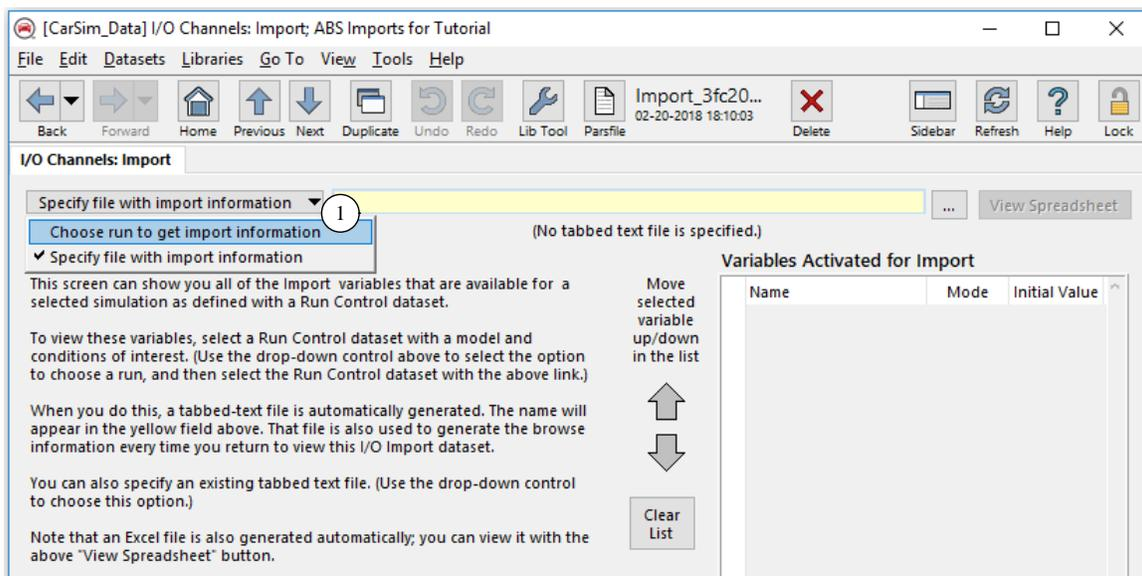
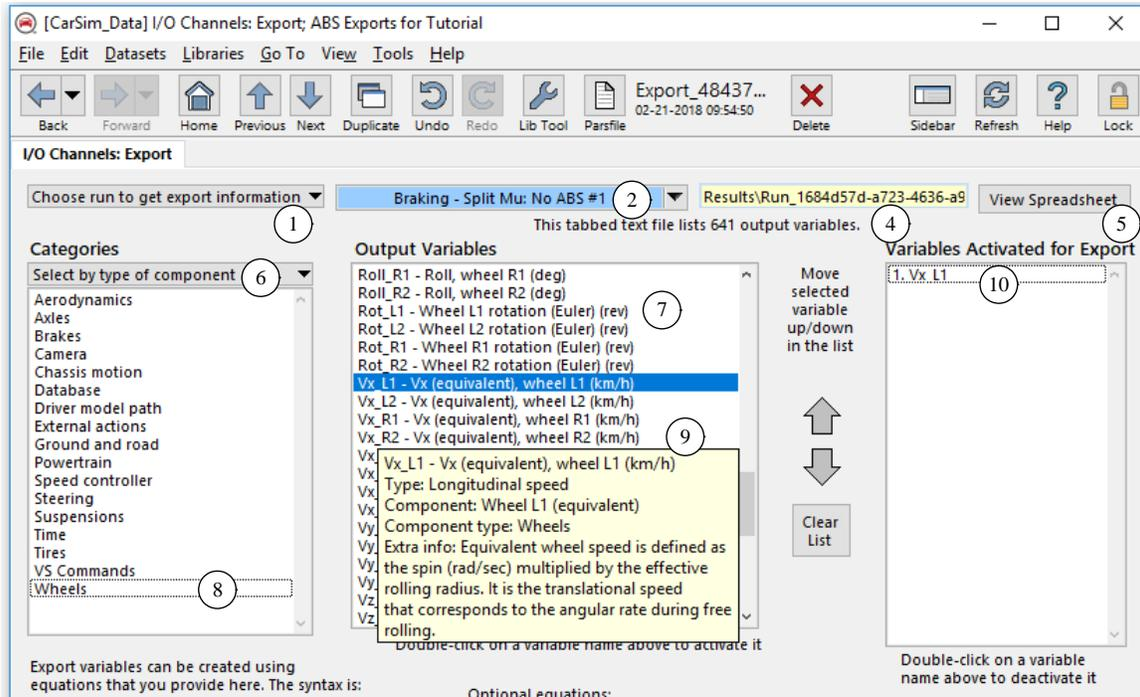

Figure 25. Import dataset that is initially empty.
Figure 32. Activating variables for export out of the vehicle S-Function block.
Click the Import Channels blue link (10) to transfer to the **I/O Channels: Import** dataset for this example. Initially, this is an empty dataset that does not name any Import variables (Figure 25).
You should now be viewing the **I/O Channels: Export** screen (Figure 32, shown for CarSim during step 6 below). Initially, there will be no variables shown (similar to the Import screen as shown in Figure 25, page 13). You will go through similar steps to obtain information about all available output variables, and select those that should be activated for export to Simulink.